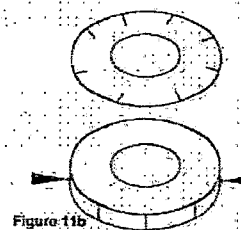

Figure 11b
3. As an alternative to step 2, to have an overhang, the flashing/support is trimmed approximately 2" larger in diameter than the marked outline (see Figure 11b). It is then slit and folded to fit down over the chimney. The screws are installed from the side once it is siliconed in place, as per step 6.
6. Place the trimmed Flashing/Support over the Flexible Liner. Lower the Flashing/Support so that the plate comes to rest on the factory-built chimney. Press the plate firmly into the silicone to create a good seal, and secure into place with #8 x 1/4" stainless steel metal screws, as per Figure 11b or 12.
7. Slide the Liner Round Top and the Flexible Liner back through the Flashing/Support assembly until the skirt of the Round Top comes in contact with the collar of the Flashing/Support. Install the four (4) sheet metal screws (provided), using the prepunched holes in the flashing collar and through the flex and Round Top. Apply silicone sealant to any exposed fences, holes or screws.